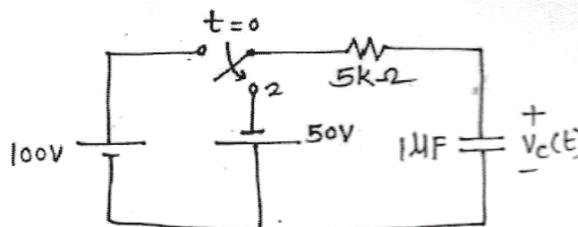

Fig. 4
c) The switch in the circuit shown in Fig. 4 is moved from position 1 to 2 at  $t = 0$ . Find expression for  $V_c(t)$  for  $t > 0$ . [6]